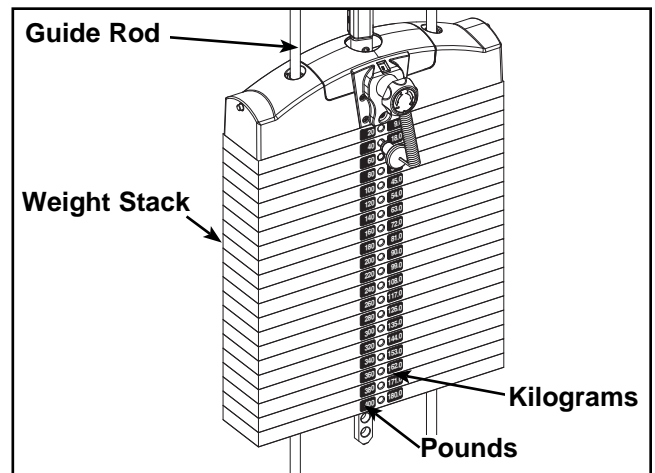

Figure 20
- E. Carefully remove front side, leaving decals adhering to weight plates. See Figure 20.